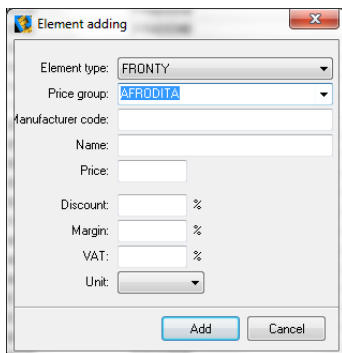

Fig. 307 – adding an item to the price-list
- adds a new item to the price-list (you need to complete the details) (Fig. 307);